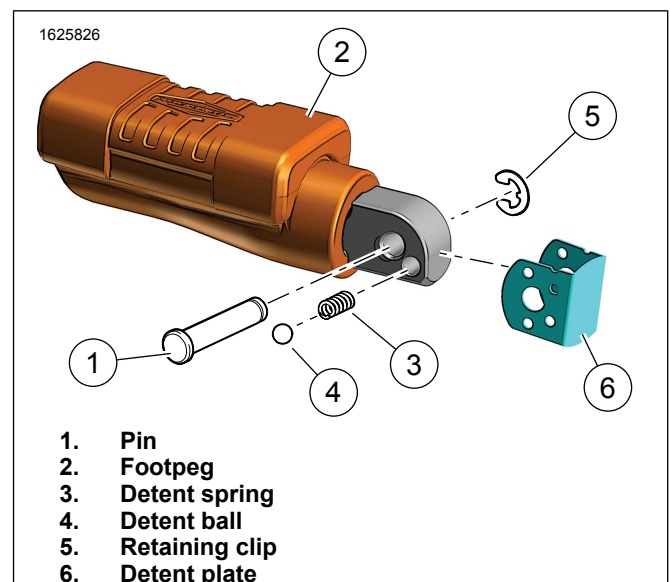

Figure 3. Passenger Footpeg Detent Spring Install
1. Figure 3 Remove pin (1) and retaining clip (5). Retain.